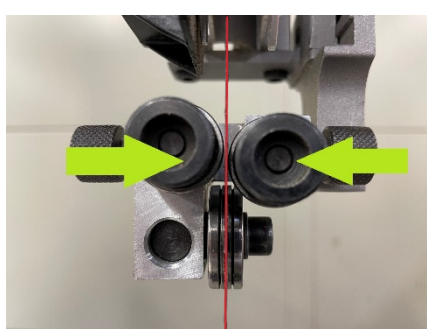

Figure 36
- Adjust the side bearings at approximately 0.5 mm of the blade. (Fig 36)